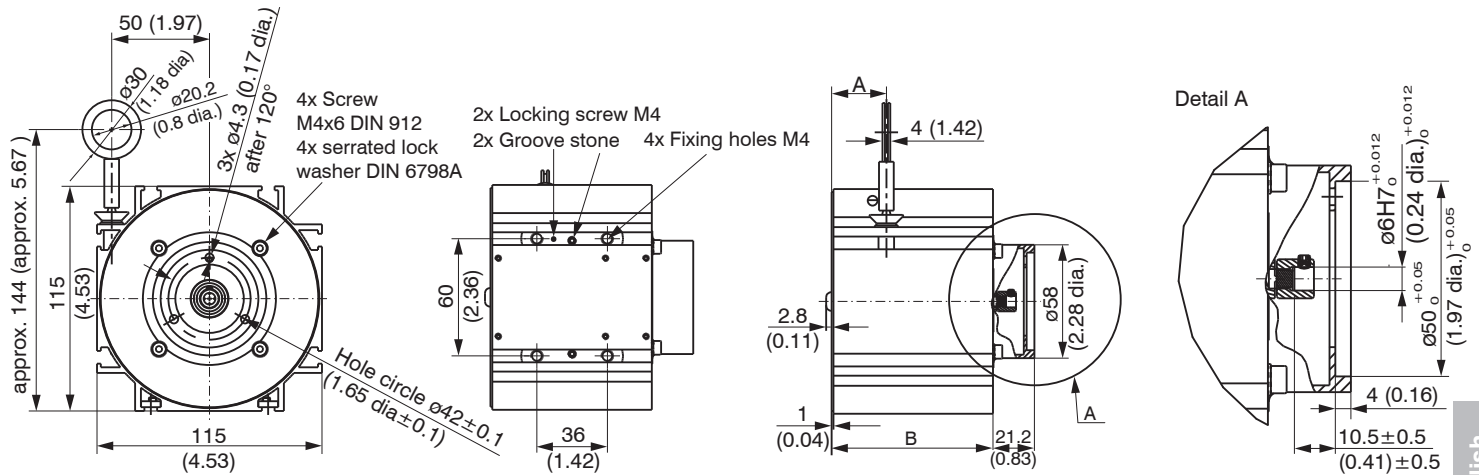

Fig. 6 WDS-P115-M series, dimensions in mm (inches)
- P115 series: 4x M6 DIN 931 and 2 slot nuts, see Fig. 6.